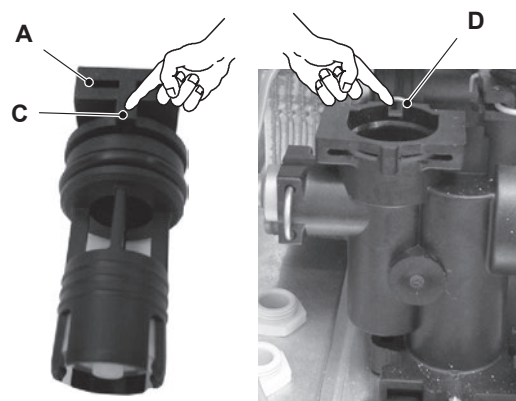

Figure 13.3
- 3 Remove the locking plate B and pull up the by-pass valve A (Figure 13.3).
**Attention:** when reassembling the By-pass valve be sure that it is correctly oriented by matching the reference C with the notch D of the water group Figure 13.3.